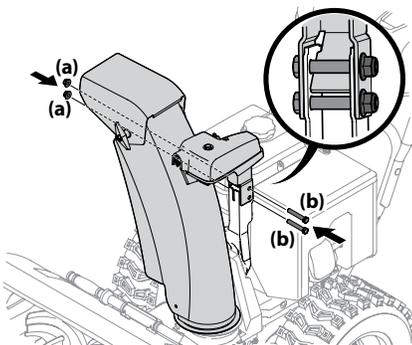

Figure 2-28
3. Secure chute control head to chute support bracket with lock nuts (a) and hex screws (b) removed in Step 1. See Figure 2-28.